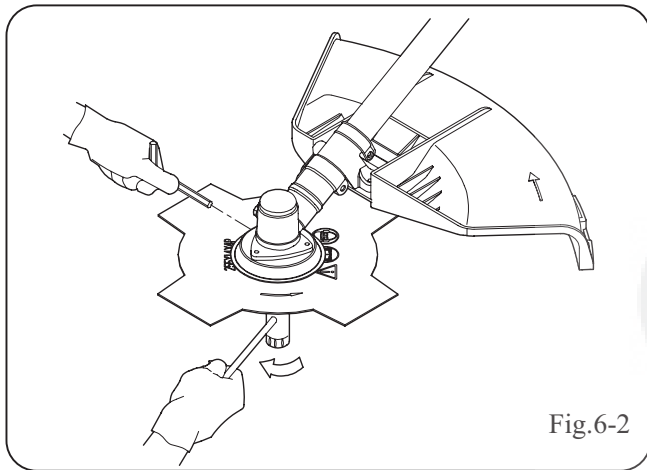

Fig.6-2
- a) Holder cutter (A) with blade (B) centering
- b) Blade (B) with text and directional arrow facing upwards
- c) Cap cutter (C)
- d) Stabilizer (D)
- e) Blade locking nut (E) (Fig. 6-2)
- d) Blade locking nut (D) (Fig. 6-2)